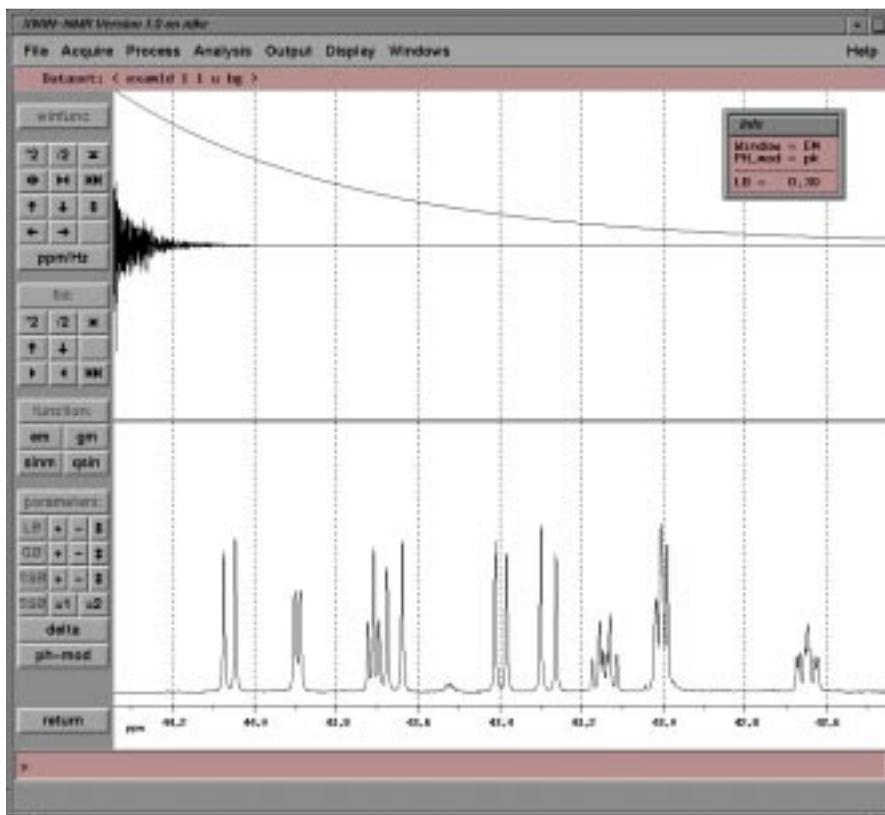

Figure 2.2 Interactive adjustment of window function
- XWIN-NMR allows you to adjust the parameters of window functions interactively with the mouse, and view the effect on the fid and the transformed spectrum simultaneously. Open the *Process* menu, and activate the command Manual window adjust. The screen layout will change to that of Figure 2.2: